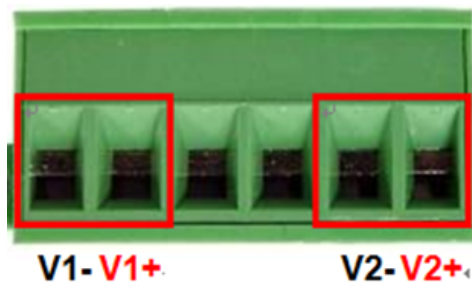

Figure 2.11 - Power Terminal Block
1. Insert the positive and negative wires into the PWR1 (V1+, V1-) and PWR2 (V2+, V2-) contacts on the terminal block connector as shown below in Figure 2.11.